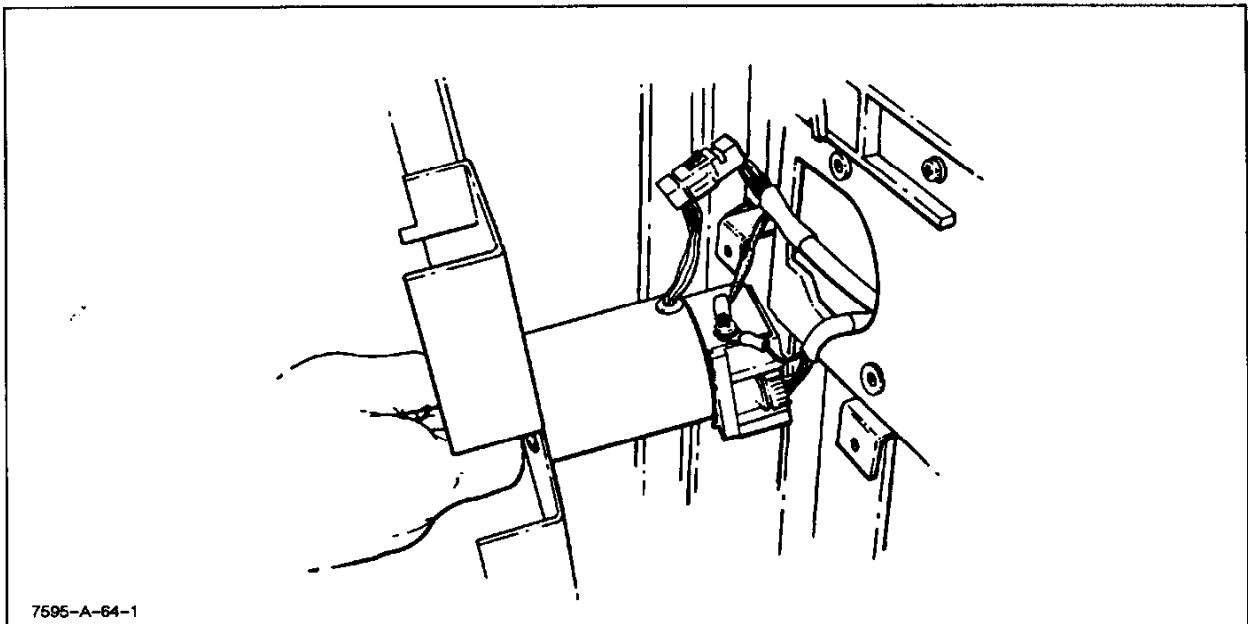

Figure 6-42. Grit Wheel Drive Motor Cable Connectors
- h. Carefully remove the motor from the access hole and disconnect the motor cables. See Figure 6-42.